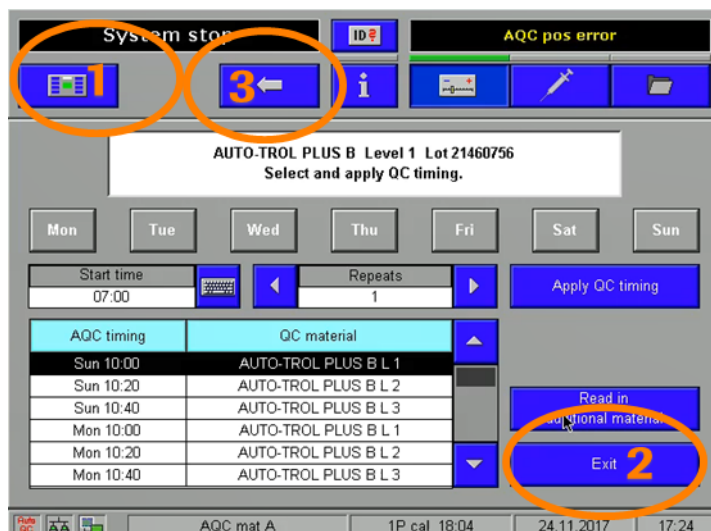
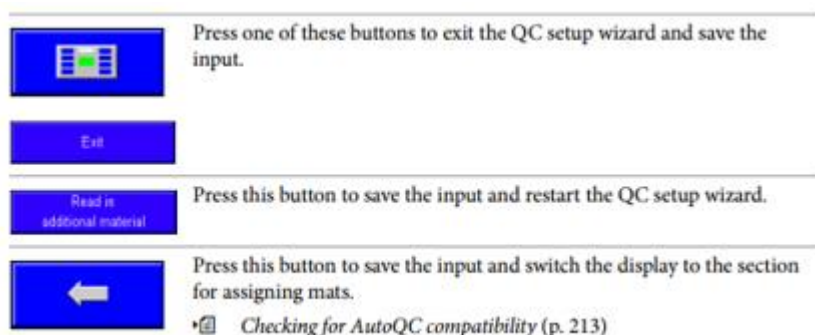

Fig. 1: Last “AutoQC timing” window in the QC setup wizard workflow.
Fig. 2: Excerpt from IFU for the **cobas b 221** (V17.0, chapter “Quality control”).
windows, the “AutoQC timing,” the operator can use the buttons “Return to Setup” (1) and “Exit” (2) (Fig. 1) to exit the QC setup Wizard and save the input as described in the Instructions For Use (IFU) (V17.0, chapter “Quality control”) (Fig. 2).
The “Back” button (3) (Fig. 1) allows the operator to navigate back through the QC setup wizard workflow. When the operator uses the “Back” button 5 times consecutively to navigate backwards through the workflow and finally closes the QC setup wizard, the software responsible for starting scheduled AutoQC measurements (scheduler) is not activated. Consequently, from this time on, no more automatic QC measurements will be performed. This situation can only be detected by reviewing AutoQC results in the instrument’s data manager or in a connected LIS/HIS.
Until the software patch is available and has been installed, the following workaround must be used: Do not use the “Back” button to exit the QC setup wizard workflow. Instead, use the “Return to Setup” (1) and “Exit” (2) (Fig. 1) buttons to ensure execution of scheduled automatic QC measurements. Whenever the QC setup wizard workflow has been used on an instrument, check whether the next scheduled AutoQC measurement is performed to ensure the AutoQC scheduler is working as expected.